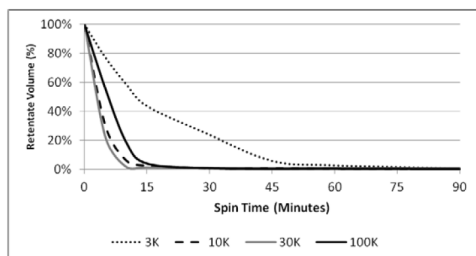

Figure 1 Protein concentration rates
Typical protein recovery is > 90% for proteins that are 2-fold greater than the membrane MWCO (see Table 2). Sample concentration of 10- to 30-fold can typically be achieved in 15 minutes or less (see Figure 1).
- For shortest concentration time we recommend using centrifuge setting near or at the maximum g-force recommended for a particular device and MWCO. For greater control of the concentration factor, reduce the centrifugation speed. For example concentration rates to achieve a desired volume for each MWCO, see Figure 1.